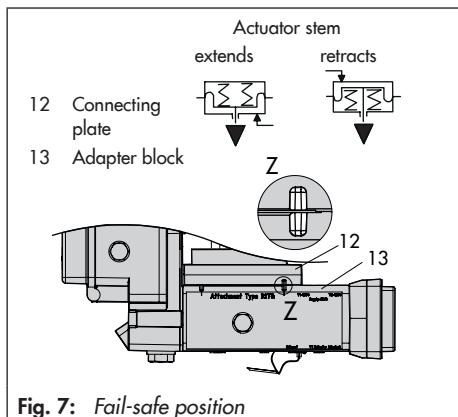

Fig. 7: Fail-safe position
7. Insert the screws (13.1) through the middle holes of the adapter block (13).
8. Place the connecting plate (12) together with the seal (12.1) onto the screws (13.1) corresponding to the fail-safe action "actuator stem extends" or "actuator stem retracts". The fail-safe action that applies is determined by aligning the groove of the adapter block (13) with the groove of the connecting plate (12) (Fig. 7).